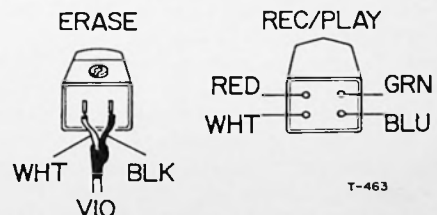

Fig. 3-5 Head Wiring Diagram
1. Unsolder each lead wire from the terminal pin of the heads to facilitate replacement. To re-solder each head wire to the newly replaced head, refer to Fig. 3-5.
2. Lift up the heads after taking off the hardware mounting them. When removing the nut, do not lose Washer (F) and Spring (G).